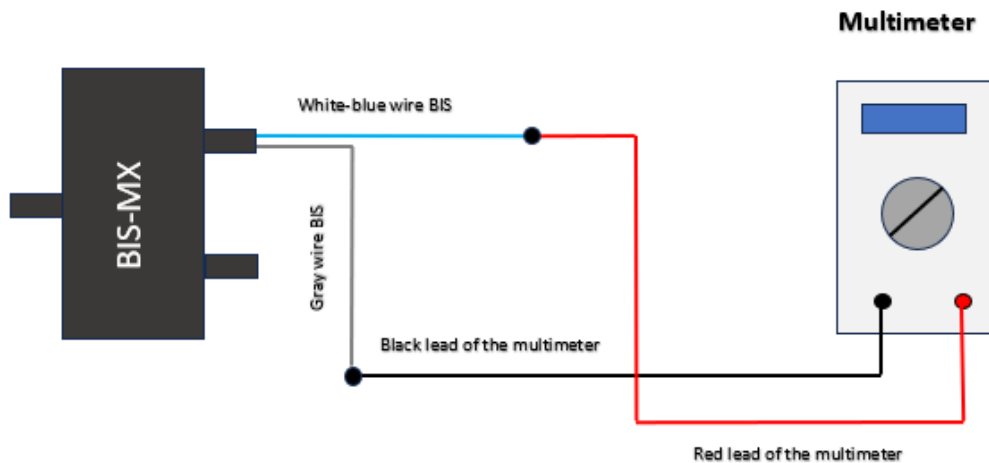

Fig. 13 Connection Diagram
2. Assemble the connection circuit according to "Fig. 13 Connection Diagram".